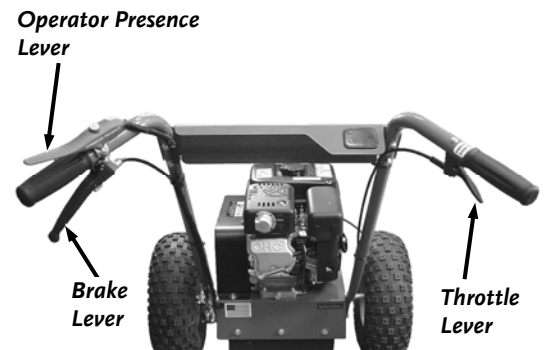

Figure 9
1. Familiarize yourself with all of the Control Levers and their functions before operating the Stump Grinder (**Figure 9**).
1. Slowly release the Throttle Control Lever to the idle position (**Figure 9**).